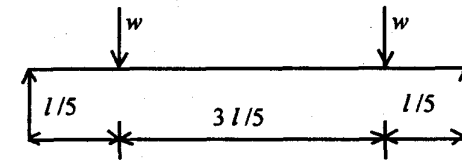

Fig. 3
3. (a) Figure 3 are shows a loaded beam. Write equations for bending moments and shearing force for sections between A and B , B and C , and C and D . Draw shearing force and bending moment diagram for beam. In which curve the beam deforms between B and C , Identify a practical situation where this type of loading is obtained. 12